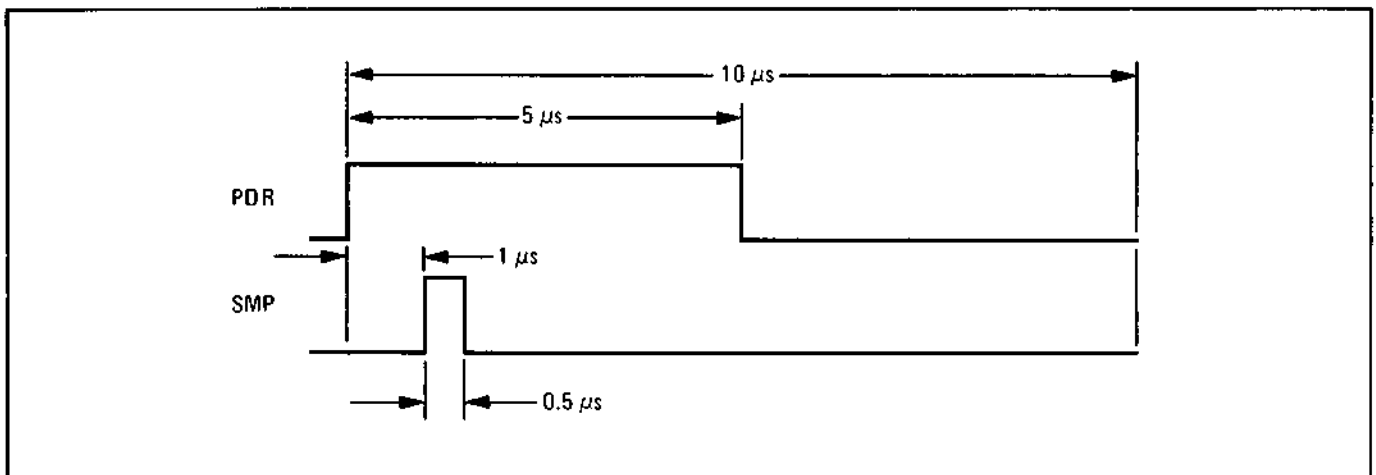

Figure 8-208. Timing Diagram for 100.0 kHz PDR and SMP Signals
5. Measure the PDR and SMP signals from the A5A4 Reference Divider Assembly on the motherboard at TP3 (PDR) and TP2 (SMP). The frequency of both these signals should be 100.0 kHz. Look at the waveforms on an oscilloscope to check for valid TTL levels and the timing relationship between the waveforms as shown in Figure 8-208.